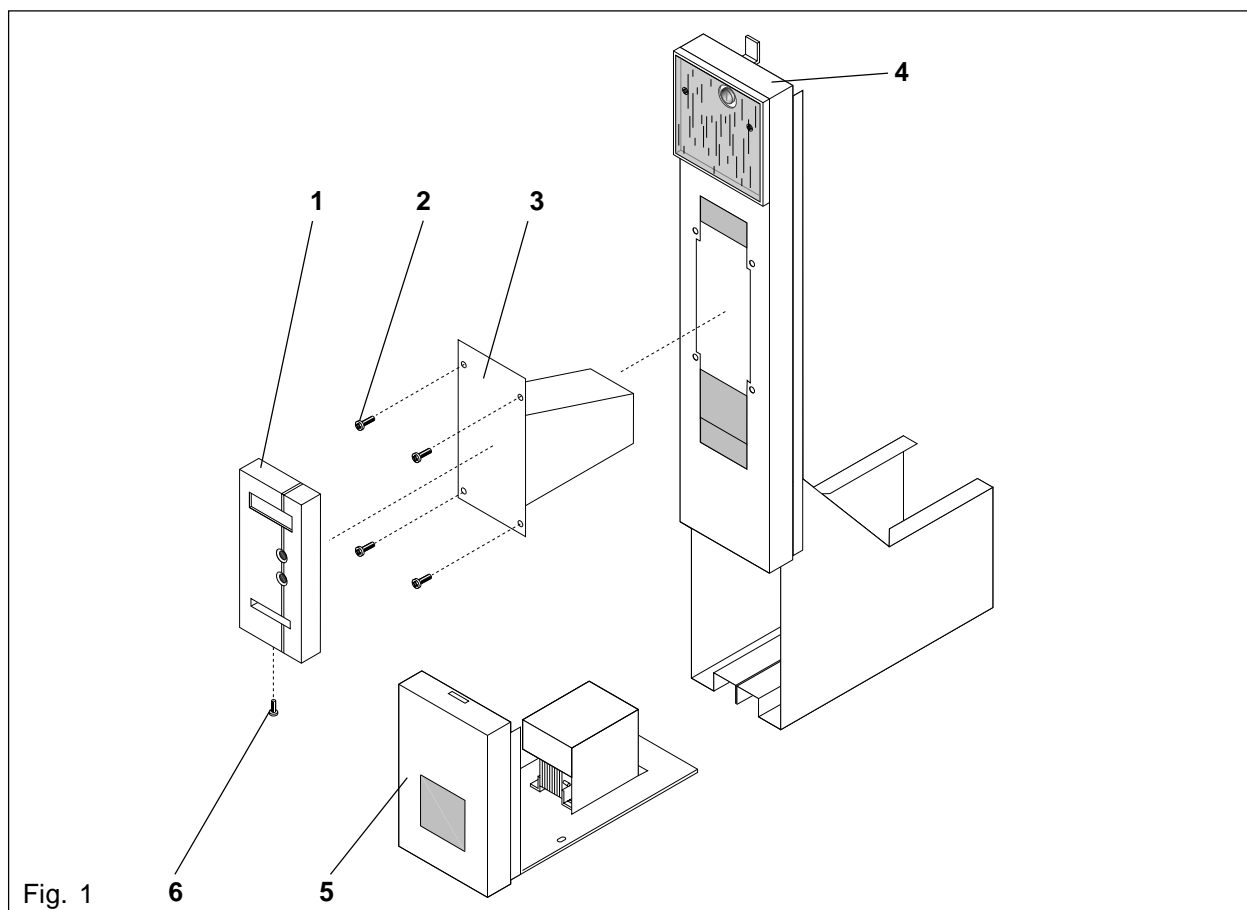

Fig. 1
- Remove the screw (6). (Fig. 1)
- Lift the panel (1) from the Xafax card reader (3) and remove it. (Fig. 1)
- Fasten the card reader with 4 screws (2) on the front insert (4). (Fig. 1)
- Place the panel (1) on the card reader and fasten it with the screw (6). (Fig. 1)
- Introduce the bottom insert with transformer (5) into the front insert and fasten it. (Fig. 1)